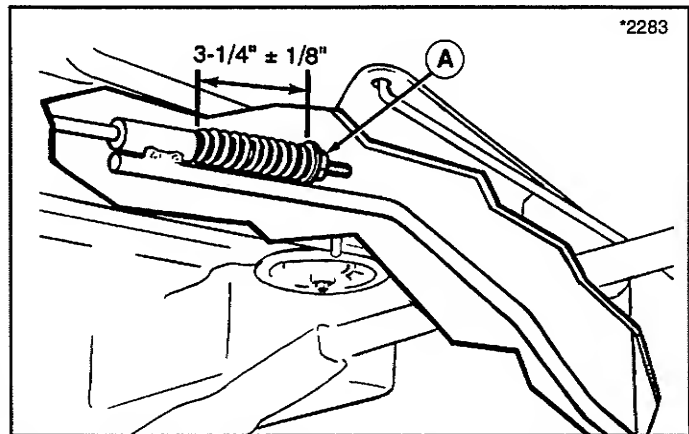

Figure 28. Brake Adjustment - Gear Models
2. See figure 28. The spring should be compressed to  $3\frac{1}{4}'' \pm \frac{1}{8}''$ . Turn the adjustment nut (A) as necessary to achieve correct spring length.